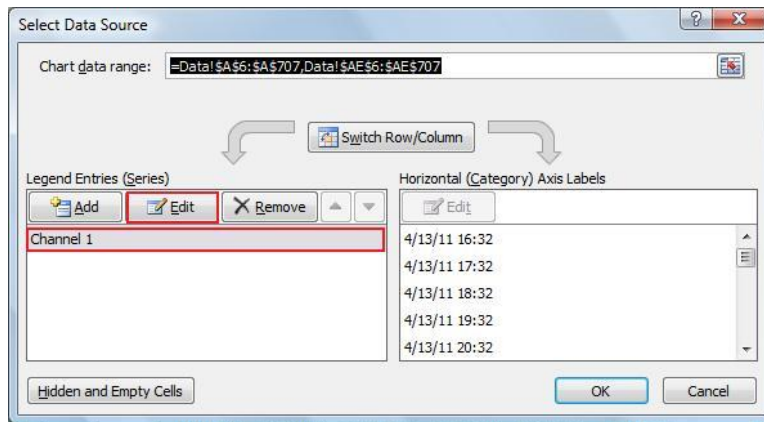

Figure 46: Accessing the Data Source Selection for a Plot
25. Select the data series and click edit, as shown in Figure 46.